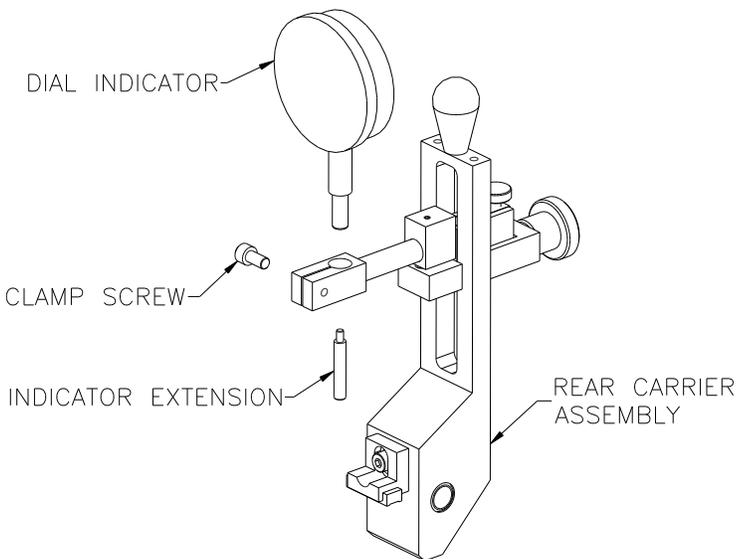
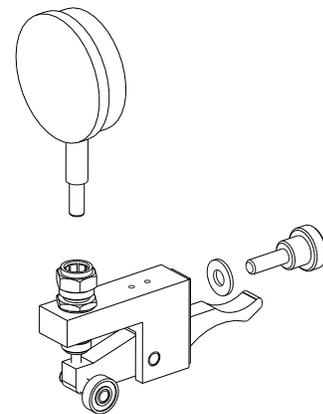

Figure 8. Rear Vertical Carrier with Dial Indicator
Figure 9. Roller Checking Attachment
6.0 Rear Vertical Carriers – (See Figures 8 and 9)
Some Concentricity Gage Models come standard with a Rear Vertical Carrier. These Carriers also offer various positions along the Z-axis, tilt-away for loading and unloading of parts and the option to use a Dial Indicator instead of a Test Indicator. They can be supplied in a variety of configurations. Figure 8 shows a standard Rear Vertical Carrier Assembly with a Dial Indicator Holder sub-assembly. The Carrier can also be provided with a Roller Checking Attachment (See Figure 9).